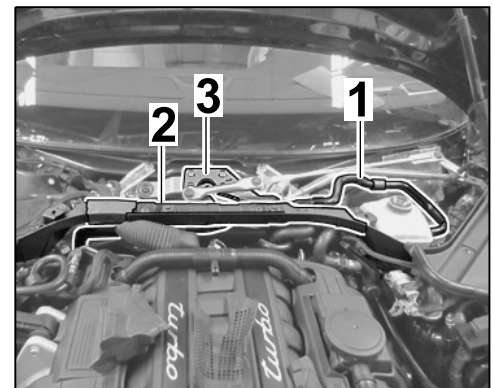

Figure 8
2.1 Remove line from brake booster to vacuum pump (⇒ Figure 8, shows left-hand drive vehicle)